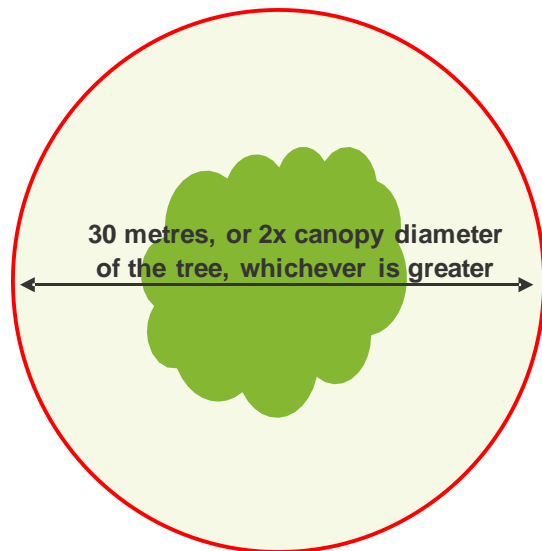

Figure 3: Protection area for a scattered tree
The area protected around each scattered tree must be a circle with a diameter of at least 30 metres, with the tree in the centre of the circle. For site assessed native vegetation credit sites, the area protected must be the greater of twice the canopy diameter or the 30 metre circle as shown in Figure 3.
- Landowners can fence individual trees, groups of trees growing close together or the whole site provided the fence includes the area to be protected around each tree (see Figures 3 and 4), and the fence ensures that stock and other threats are excluded.